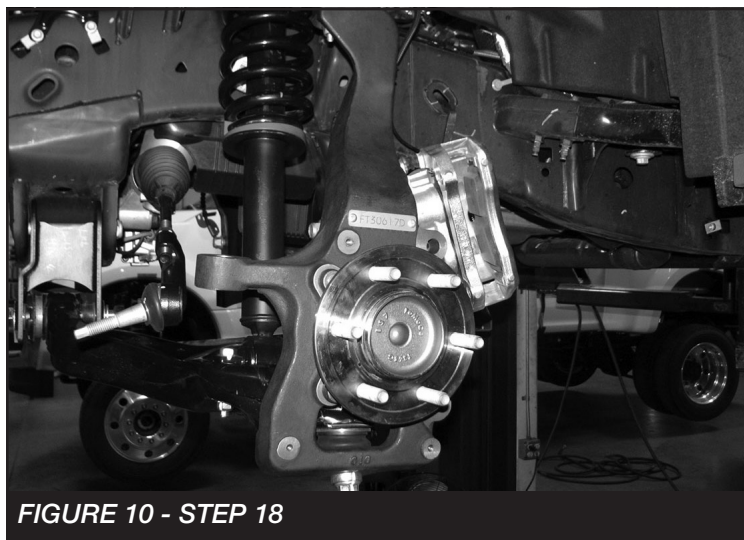

FIGURE 10 - STEP 18
18. Attach the new Fabtech spindle onto the lower ball joint. Torque to 85 ft-lbs. Holding the top of the spindle inboard set the upper ball joint into the spindle. Attach the upper ball joint to the spindle using the factory nut. Torque to 110 ft-lbs. **SEE FIGURE 10**